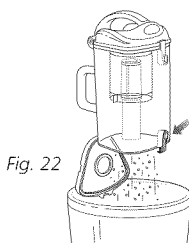

Fig. 22
- 2 Hold the dust cup over a trash receptacle and press the bottom door release button. (Fig. 22) Tap gently to empty contents. Press the door shut again until it clicks.